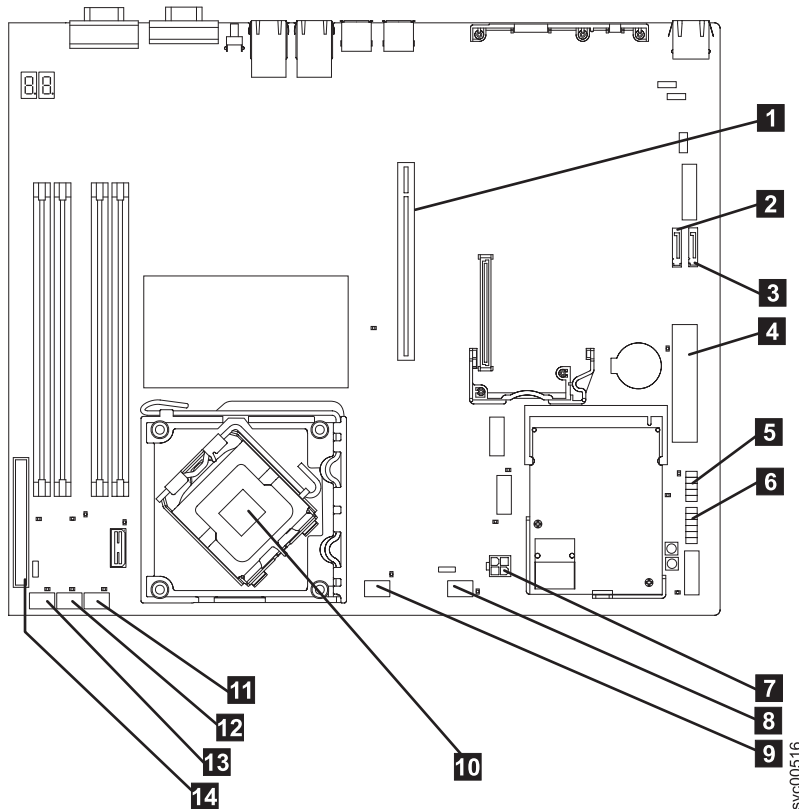

Figure 265. Connectors that are used on the SAN Volume Controller 2145-8A4 system board
7. Mark the cables to ensure that you know where each one goes. Figure 265 shows the connectors on the SAN Volume Controller 2145-8A4 system board.